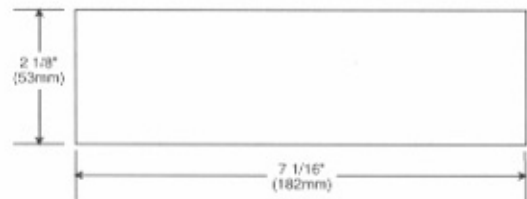

Figure 6. Opening Required
3. The RX-779 is a standard DINE chassis. The opening required is 2 1/8 inches (53 mm) x 7 1/16 inches (182 mm), (see Figure 6).